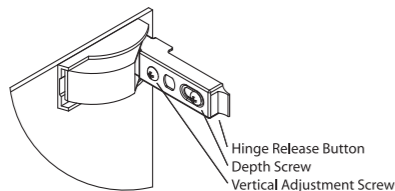

Fig:5
1. Open the left and right hand doors. Using the centre door as a guide place the spirit level on the inside vertical edge of the door and check the vertical alignment. If this requires adjustment rotate the vertical adjustment screw either clockwise or anti-clockwise to move the door to the left or right – see figure 5. To ensure full movement both top and bottom hinges may have to be adjusted.
2. If the front faces of the doors are uneven then adjustment of the depth screw will move the door edge forward or backwards as required – see figure 5. Please note that this may not need adjusting.